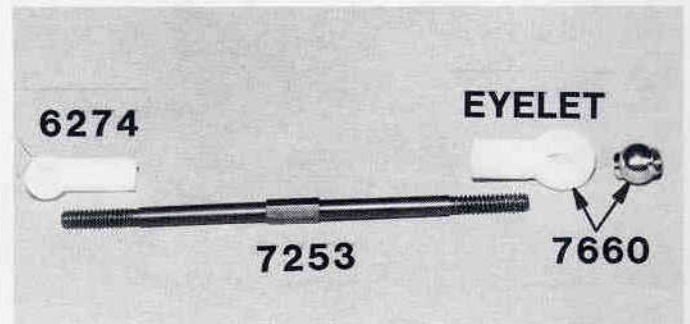

Fig. 141
For the bushing kits, skip ahead to fig. 141.
□ **Figs. 141 & 142** (1) Remove the two #7253 turnbuckles and two #7660 rear shock/turnbuckle ball ends with nylon eyelets from bag #7-8, then two #6274 plastic ball cups from bag #6-14. (2) Thread one ball cup onto each turnbuckle. (3) Now take the #7660 eyelets and thread them onto the other end of each turnbuckle evenly to 3.05". This overall length is measured from the center of the plastic ball cup to the center of the nylon eyelet as shown. (4) Place the eyelet over the ball end and press it on. You may use a 1/4" nut driver to press it on. Compare your part to the actual size drawing at the bottom. Your complete turnbuckle assembly will look like fig. 142 except for the color.